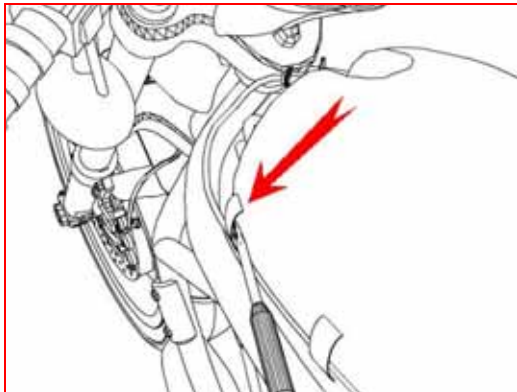

Fig 2
3. Use a screwdriver to disengage the 8 clips retaining the air box lid. The front clip is not visible and must be reached from the right side. (See figure 2)